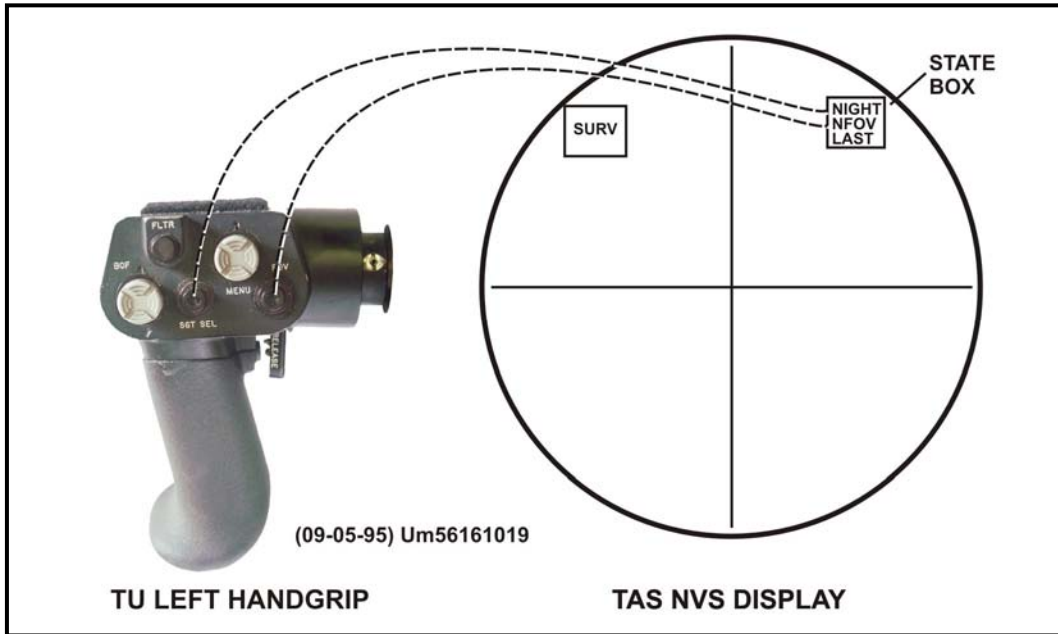

Figure 2-9. SGT SEL, FOV switch, and TAS display.
(2) *Sight Select (SGT SEL) Switch.* The SGT SEL switch is a push-button switch that is only operable after the NVS has cooled down. The gunner uses this switch to select between daysight and NVS. The STATE BOX in the TAS display will indicate which sight the gunner has selected (Figure 2-9, page 2-6).
(3) **Field of View (FOV) Switch.** The FOV switch is a push button that allows the gunner to choose between WFOV and NFOV for either sight (daysight or NVS). The STATE BOX in the TAS display will indicate which field of view has been selected (Figure 2-9).